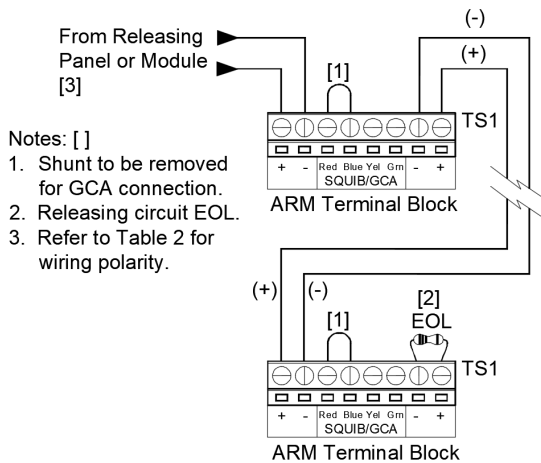
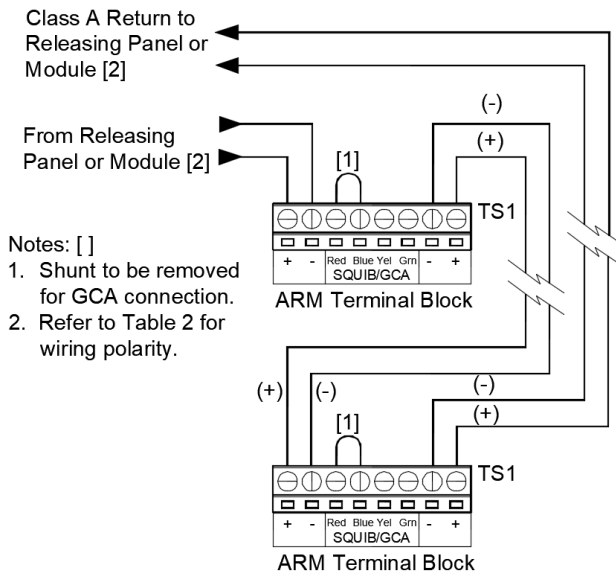

Figure 3 - Class B Wiring
Figure 4 - Class A Wiring
8. Connect the releasing circuit wiring to the ARM module(s) as shown in Figure 3 or Figure 4, maintaining correct wiring polarity.
1. Temporarily remove the end-of-line resistor from the last ARM on a Class-B circuit (See Figure 3) or disconnect the Class-A return wire leg on the last ARM (See Figure 4) and verify that a Trouble signal is received by the releasing panel.
5. Remove the GCA shunt from the first ARM and connect an Output Analyzer (P/N 10-2983) to the ARM Red/Blue terminals (See Figure 3 or 4).